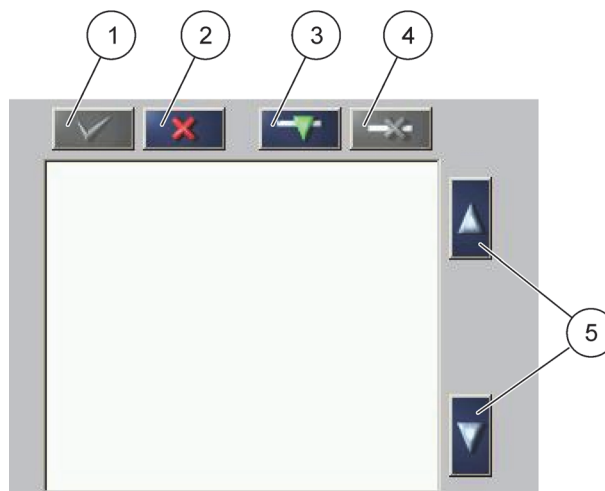

Figure 25 Configuration screen
2. The configuration screen is displayed (Figure 25).